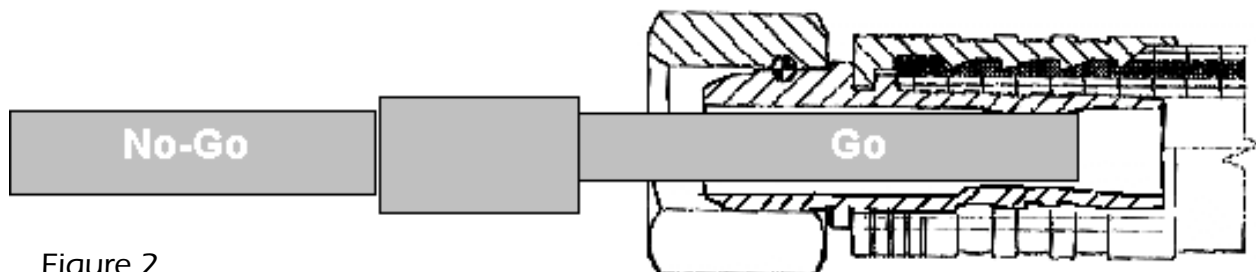

Figure 2
- 4.** Insert the go end of the mandrel into the insert tail. The mandrel should pass through the tail (**Figure 2**).